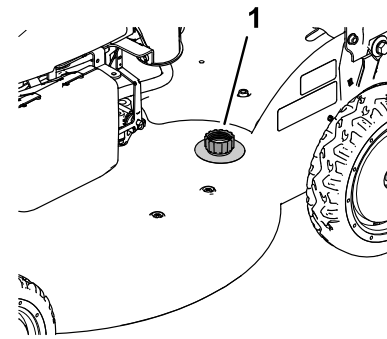

Figure 22
4. Attach a garden hose that is connected to a water supply to the washout port (Figure 22).